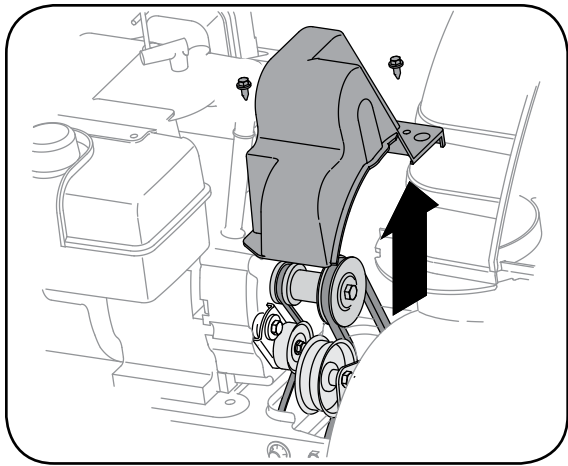

Figure 6-4
1. Remove the plastic belt cover on the front of the engine by removing the two self-tapping screws, Figure 6-4.